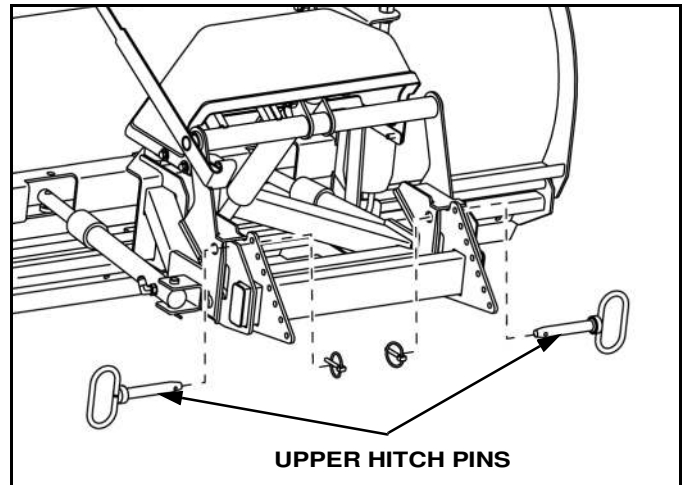

Figure 1-11
5. With plow still in float mode insert upper hitch pins and secure with lynch pins. Use handle to help align holes if needed. (See Figure 1-11)